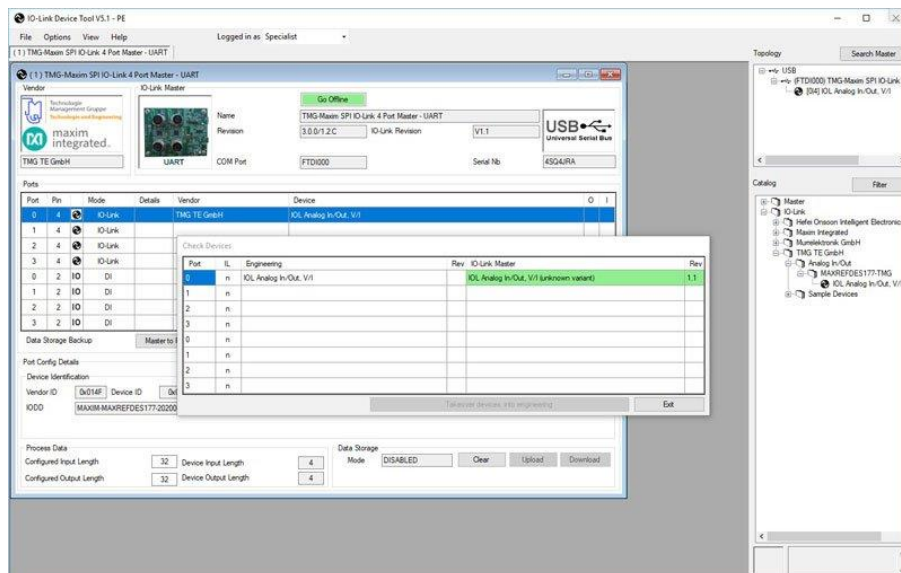

Figure 6. MAXREFDES177# sensor found.
6. The IO-Link Device Tool software shows the IO-Link master connection if communication is established correctly. Select the port number the MAXREFDES177# is connected to and click **Check Devices** below the **Ports** section. The software shows the MAXREFDES177# is connected, Click **Takeover devices into engineering** in **Check Devices (Figure 6)**.